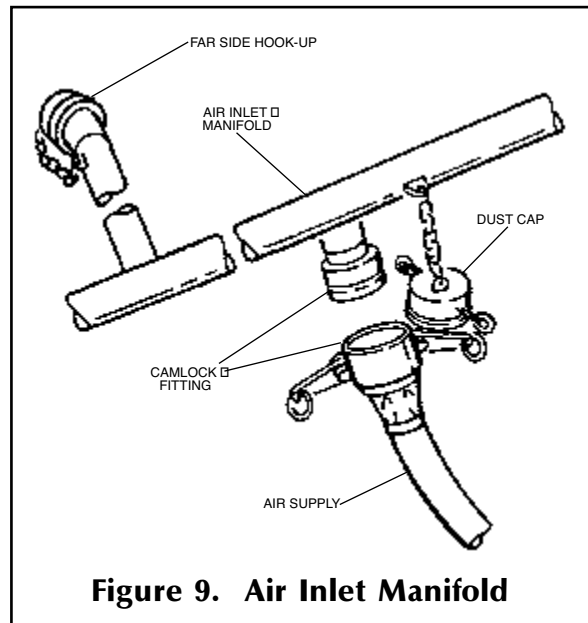

Figure 9. Air Inlet Manifold
1. Remove dust cap and connect air supply line to air inlet fitting. Air supply can be connected to either side of the car (See Figure 9).